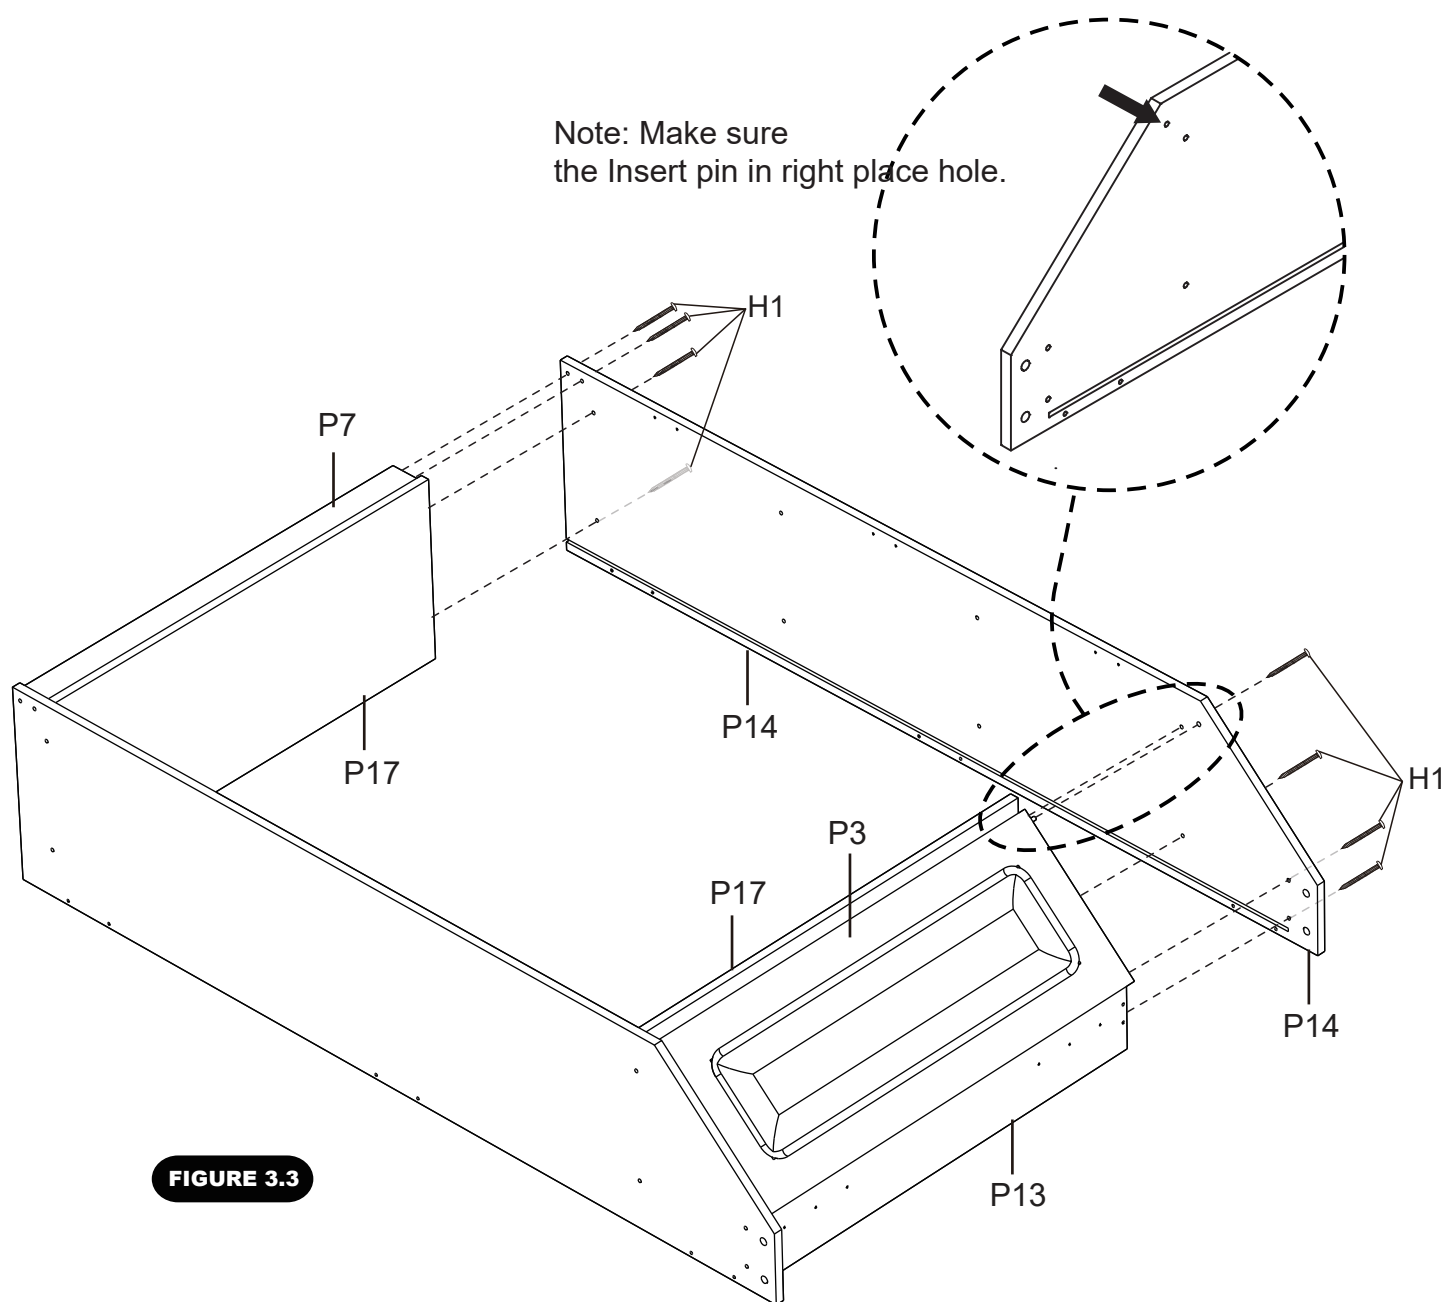

FIGURE 3.3
3. Attach Lower Side Panel - Left **P14** to above assembled frame, Use Phillips Round Head Screw **H1** As shown in **Figure 3.3**.